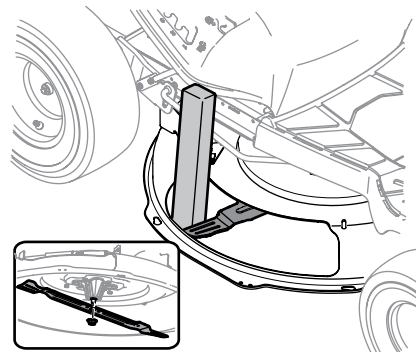

Figure 4-13
- Using a block of wood or 2 x 4, insert it into the deck opening and rotate the blade around until it wedges the wood between the deck opening and the cutting blade, as shown in Figure 4-13.
- Remove the hex flange nut that secures the blade to the spindle assembly. See the Inset of Figure 4-13.